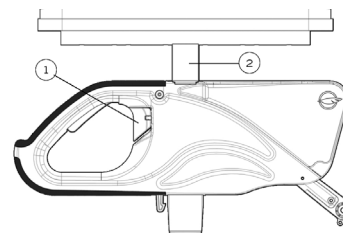

Fig. 18
- Flip lever (1) left or right to unlock the armrest (Fig. 18).
- Adjust the structure (2) at the desired height.